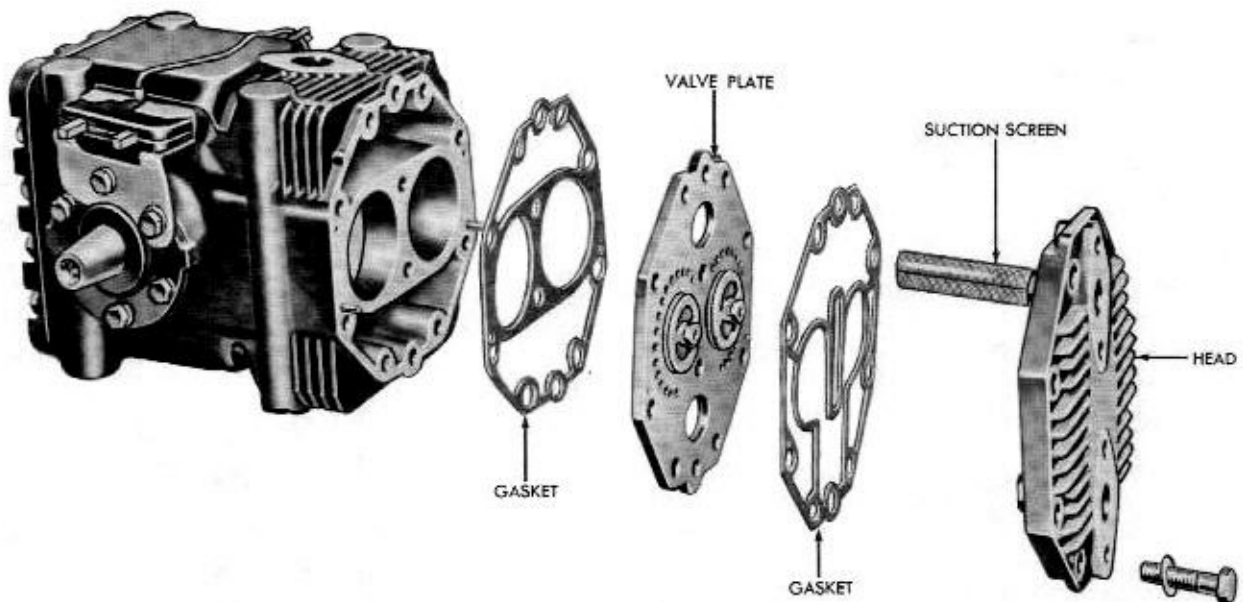

Fig. 8-2—Compressor Cylinder Head and Valve Plate Disassembled—Typical—(61LM-8811)
5. Remove the cylinder head and valve plate assembly from the compressor. Remove the old gaskets or pieces of gasket that may stick to the gasket surfaces. Figure 8-2 shows a cylinder head and valve plate disassembled.